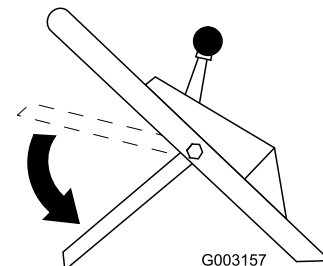

Figure 21
8. Move the control bar down to its lowest position (Figure 21).